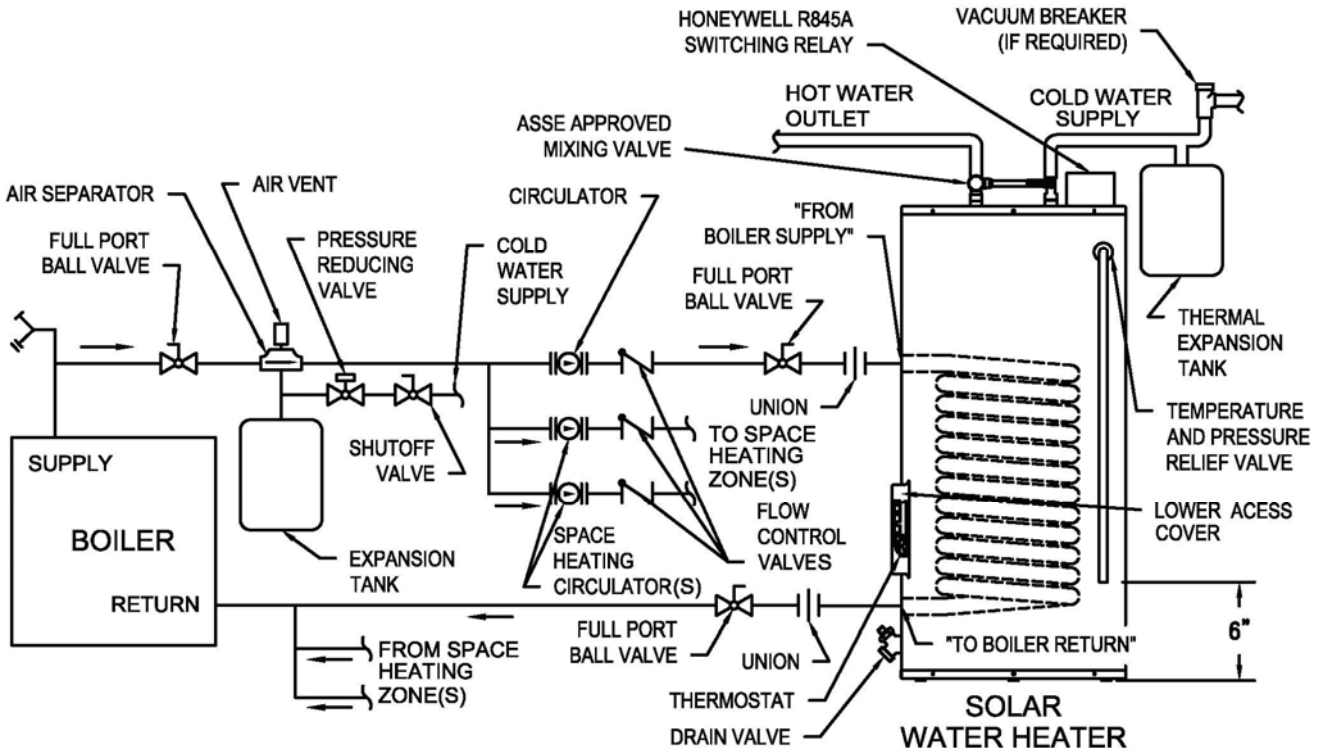

Figure 4 – Piping for Boiler Application (Winter/Summer)
SYSTEM LAYOUT FOR WINTER/SUMMER WATER HEATING SYSTEM (See Figure 4)
1. For boiler system connections, refer to Figure 4. The indirect-fired water heater connection labeled “FROM BOILER SUPPLY” should be piped to the boiler supply piping. Mount the circulator making sure the flow arrow points toward the water heater. The use of shut-off valves and unions are recommended for future service convenience. The use of an air separator and vent is recommended to eliminate air in the system. Pipe and fittings between the boiler and indirect-fired water heater must be $\frac{3}{4}$ ” diameter or larger.